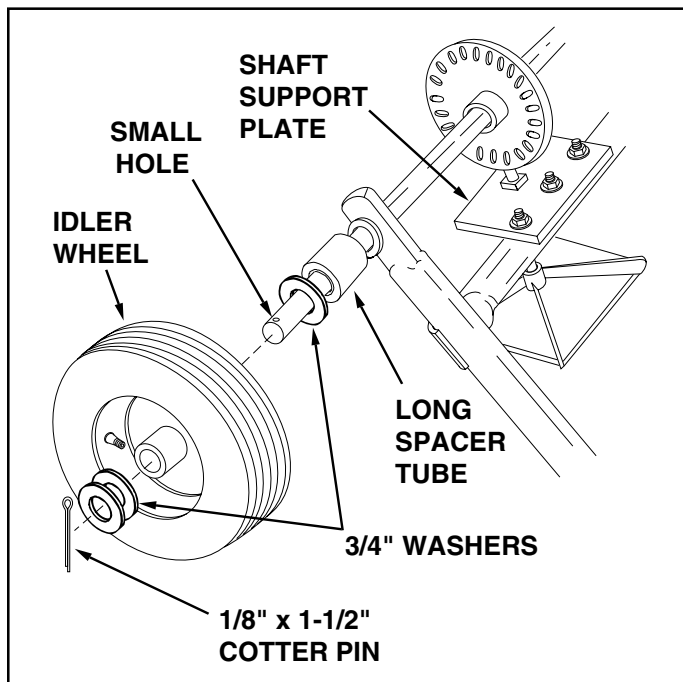

FIGURE 1
2. Assemble the long spacer tube and a 3/4" washer onto the end of the axle that has the small drilled hole (right hand side). See Figure 1.
3. Place the idler wheel (no notch in hub) onto the axle. The air valve should face to the outside. See Figure 1.
4. Assemble one or two more 3/4" washers onto the axle and then assemble the 1/8" x 1-1/2" cotter pin. See Figure 1.